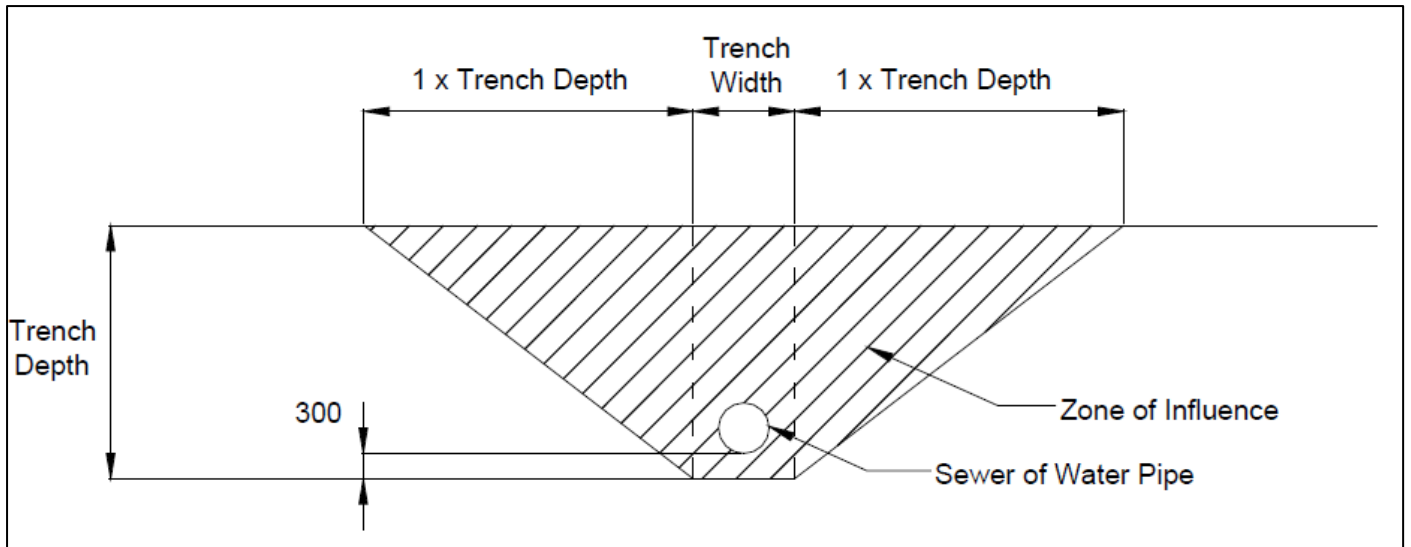

Figure 1: zone of influence for clay soils
- **Figure 1:** *Zone of influence* for soil, clay etc.
- d) The zone is calculated using the depth of the trench and half the trench width. This calculation varies due to the type of soil present. Figures 1 and 2 indicate the Zone of Influence for clay soils and for sand, filled ground and loam respectively.
As **Figure 1** indicates, the *zone of influence* extends out from the edge of the pipe trench the same distance as the depth of the trench (The ratio used is 1:1). For clay soils the zone will extend the same distance as the depth plus half the width of the trench. For example, for a pipeline of 150 mm diameter and a depth of 1500 mm, the trench depth is 1800 mm deep (i.e. 1500 + 300) therefore, the zone extends 2100 mm from the pipe centre line (i.e. 1800 + 300).